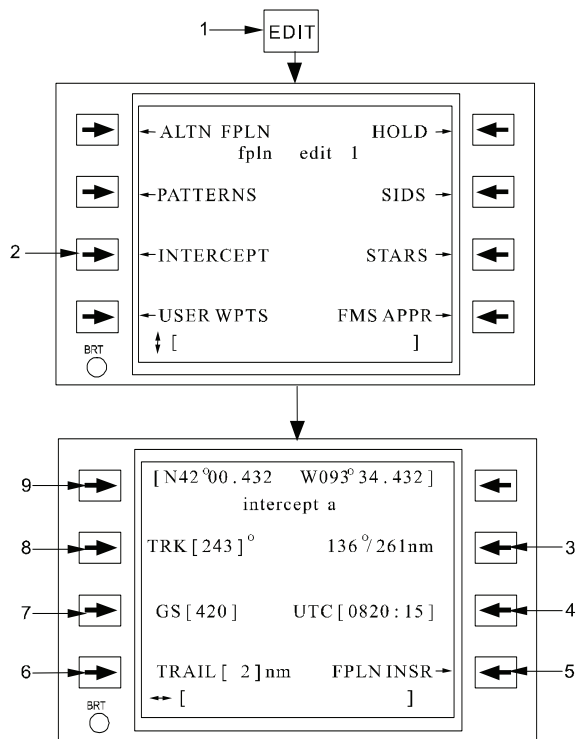

Figure 3B-94. Intercept Definition
(1) *Intercept Calculations.* Up to 10 moving targets may be simultaneously defined. Intercept solutions to these targets may be inserted as either the active waypoint for immediate (Direct-To) execution or as a future waypoint to implement a future intercept of a moving target. Figure 3B-94 and Table 3B-65 illustrate how to define moving waypoint parameters for use in intercept solutions.